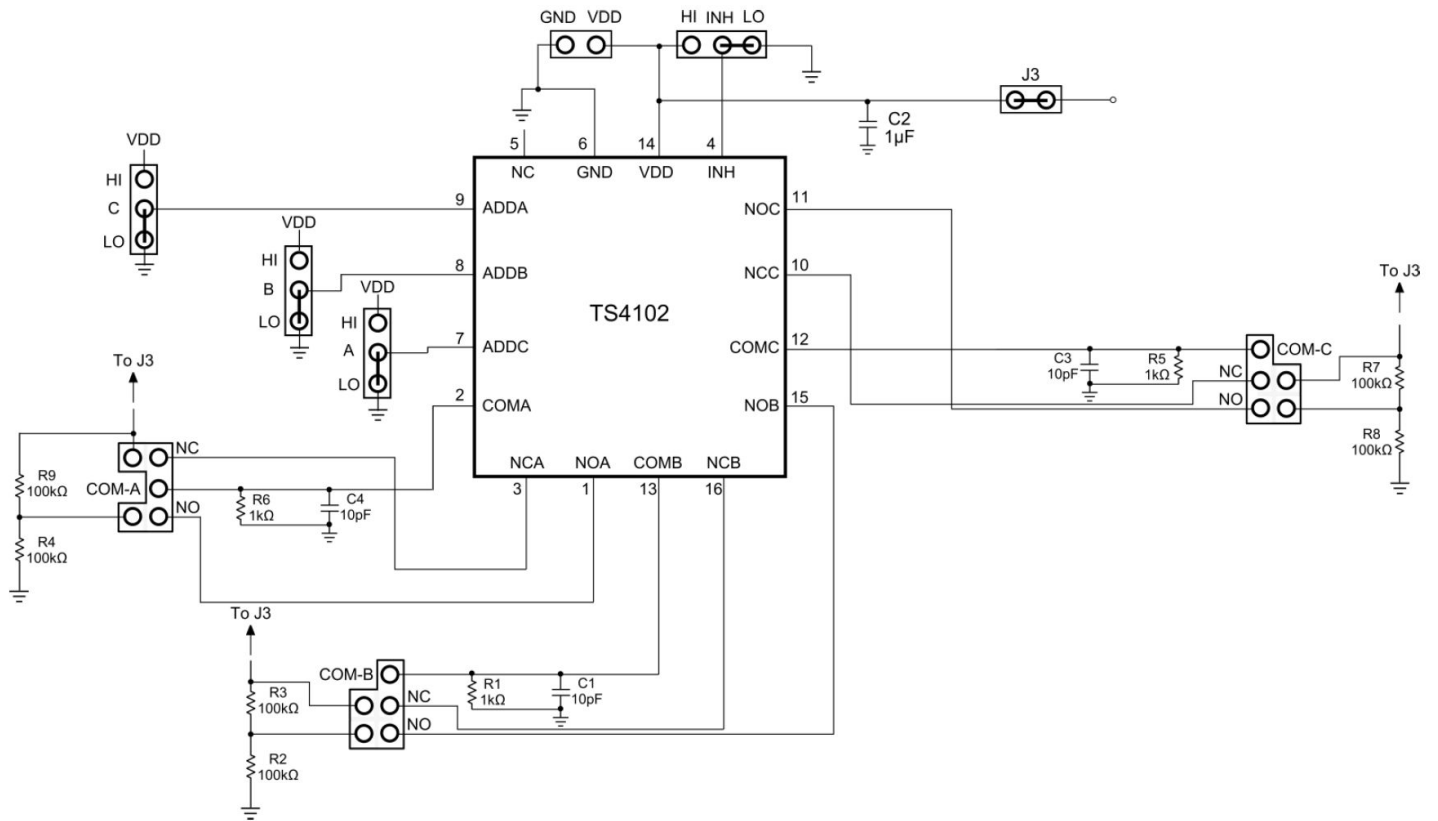

Figure 2.3. TS4102DB Schematic
4. Find outputs COM-A, COM-B, and COM-C on the demo board. Refer to Figure 2.3 TS4102DB Schematic on page 7. Note that each SPDT has its own individual NC and NO 2-pin header. Place a jumper on all 2-pin headers labeled NC and NO. This sets a dc voltage to all NC and NO outputs.